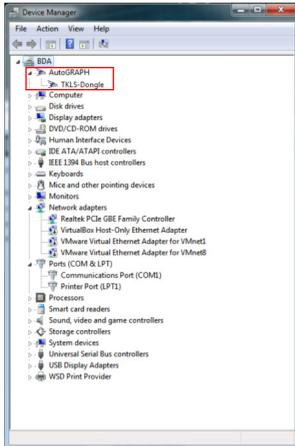

Fig.5. TKLS-Prog-485 is connected.
- install the driver. After the installation the connected device will be recognized (Fig.5).